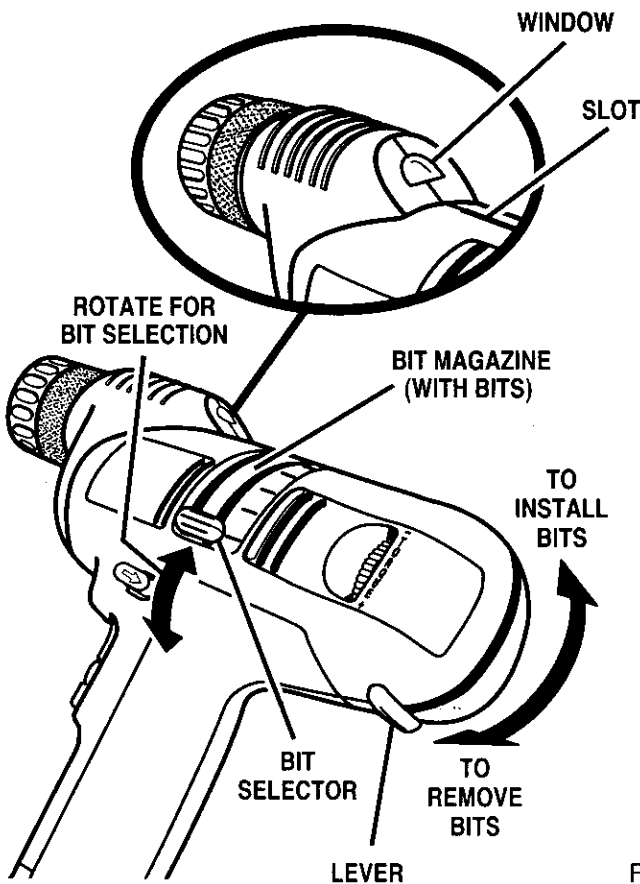

Fig. 9
See Figure 9.
- To load bit into chuck, locate lever at back of housing and rotate in the direction of the arrow as shown in figure 9. **Note:** When bit is first loaded into chuck, the magnetic mechanism inside the housing keeps the bit from falling out prior to the chuck jaw being tightened.
- Rotate lever on back of housing in the direction of the arrow as shown in figure 9.